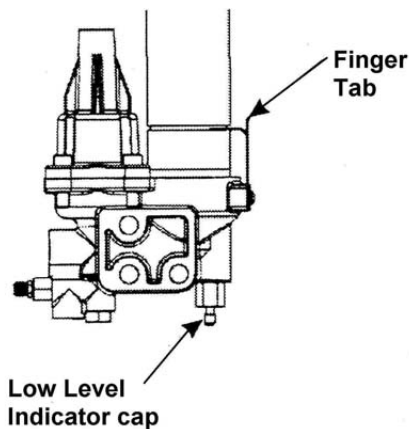

Figure 7-1 Low Level Indicator
3. Visually check that follower seal is in the correct position (Figure 7-1).